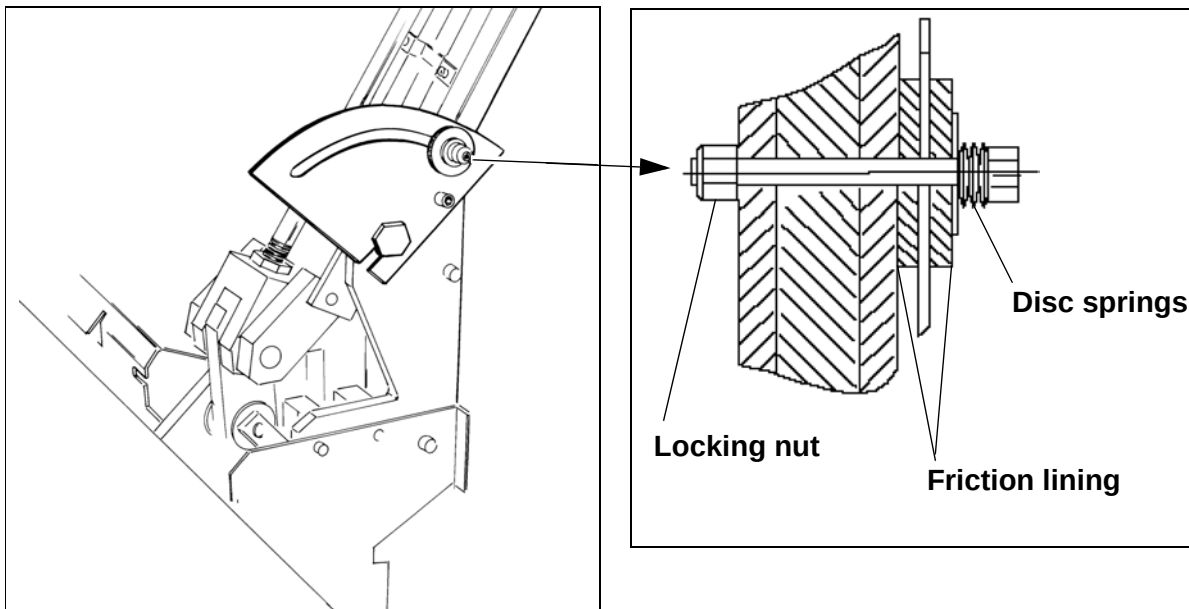

Fig. 27
- Remount the screw and the disc springs (Fig. 27). Secure the screw with the locking nut.